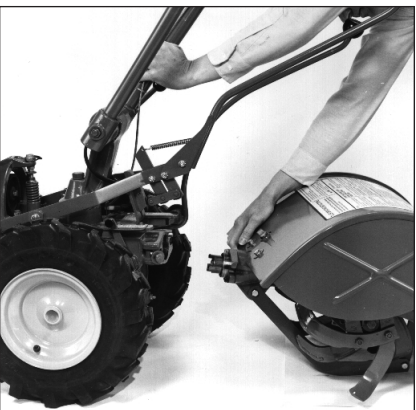
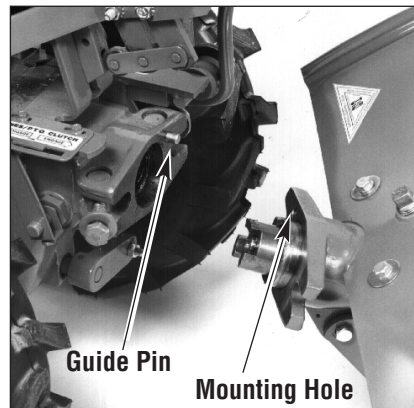

Figure 4-26: Pulling attachment away from power unit.
Figure 4-27: Aligning guide pin with mounting hole.
8. Tip the PTO power unit forward about one inch with one hand while pulling the tine attachment back (Figure 4-26). The guide pin on the power unit will slide out of the guide hole in the tine attachment (Figure 4-27).
4. Carefully align the guide pin on the PTO Power Unit with the alignment hole in the tine attachment and bring the two units together (Figure 4-27).